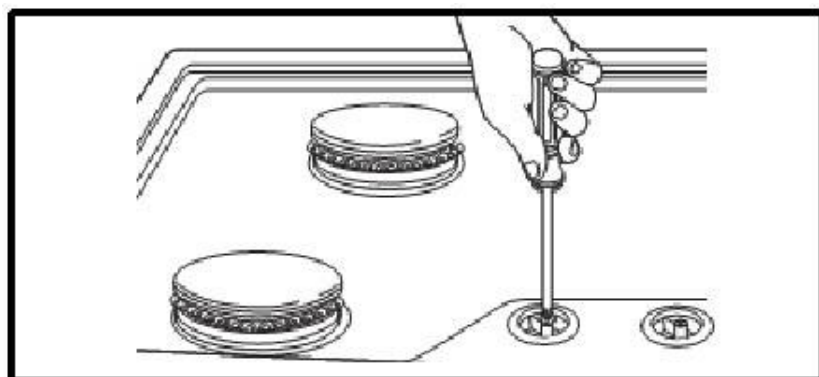

Figure 25
- To adjust the flame, remove the knobs, insert a screwdriver through the access hole in valve shaft as shown (see Figure 25). Make the adjustment by slowly turning the screw until flame appearance is correct.